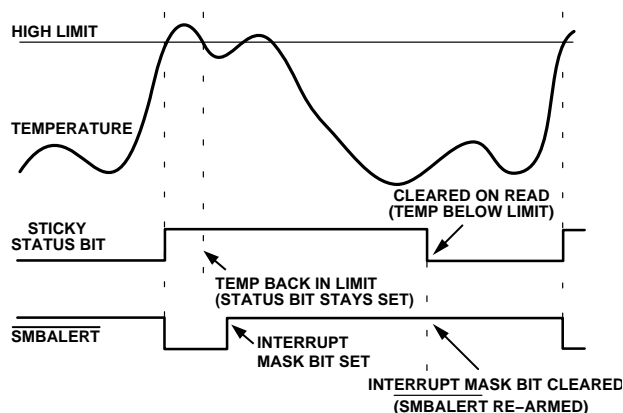

Figure 25. How Masking the Interrupt Source Affects  $\overline{\text{SMBALERT}}$  Output
7. Periodically poll the status registers. If the interrupt status bit has cleared, reset the corresponding interrupt mask bit to 0. This causes the  $\overline{\text{SMBALERT}}$  output and status bits to behave as shown in Figure 25.